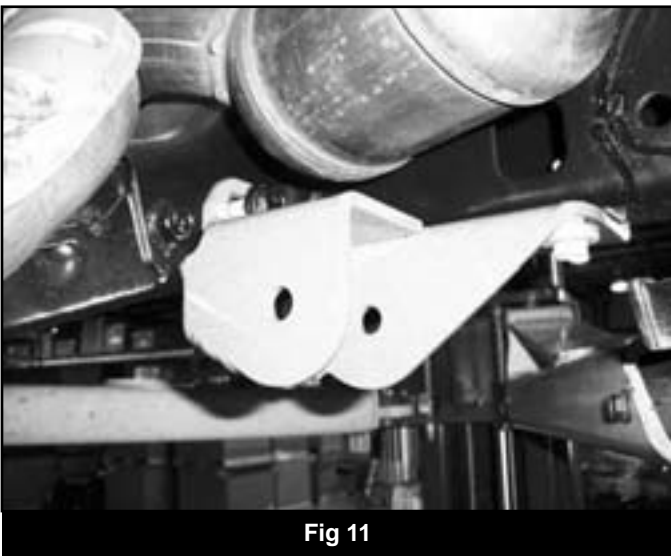

Fig 11
25. Position the provided front LCA mount (01983-drv, 01984-pass) up to the frame rail and against the front face of the transmission crossmember (Fig 11). Loosely fasten the bracket to the frame with the OE skid plate bolt and to the crossmember with the OE crossmember hardware.